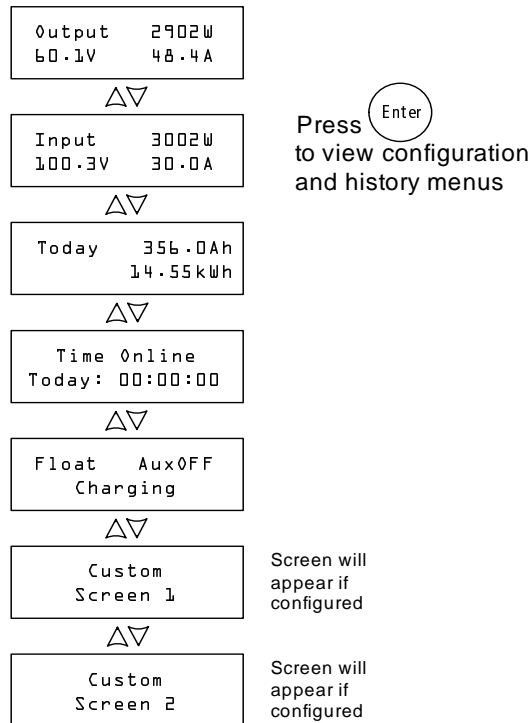

Figure 4-1 Operating Screens
- When in Charge Control mode the LCD shows the output power, voltage and current (and additional information as shown in Figure 4-1 on page 4–3).
The front panel display shows different message screens during startup and normal operations. Figure 4-1 shows the sequence in which the Startup and Operating screens are displayed or can be viewed.